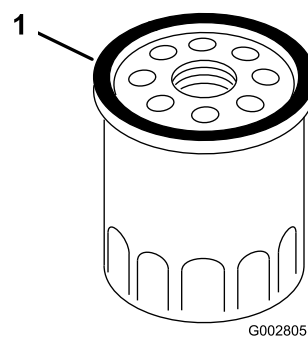

Figure 28
7. Use your finger to coat the gasket on the new filter with oil (Figure 28).